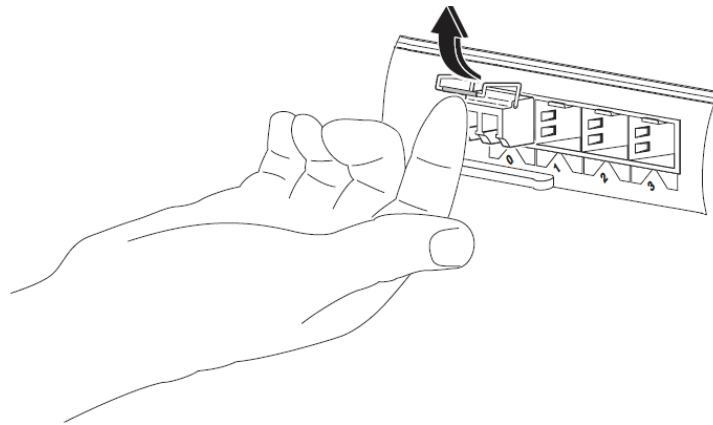

Figure 12: Opening the bale clasp of an SFP+ Module
3. Open the bale clasp on the SFP+ module with your index finger, or a small flat-blade screwdriver, in a downward direction, as shown in Figure 12.